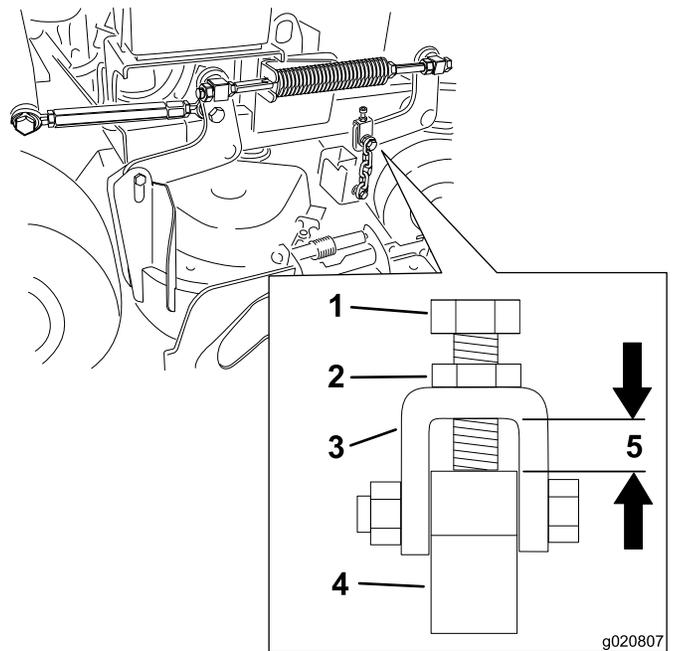

Figure 83
10. Check the distance between the yoke and the deck hanger arm at each yoke. This distance needs to be 11 mm (7/16 inch). See Figure 83.
12. Loosen the jam nut and adjust the adjustment bolt to achieve the correct distance shown in Figure 83.